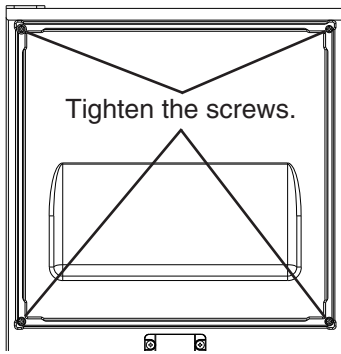

Fig. 19
7) Tighten the four M4x25 pan head screws installed in step 5. See Fig. 19.